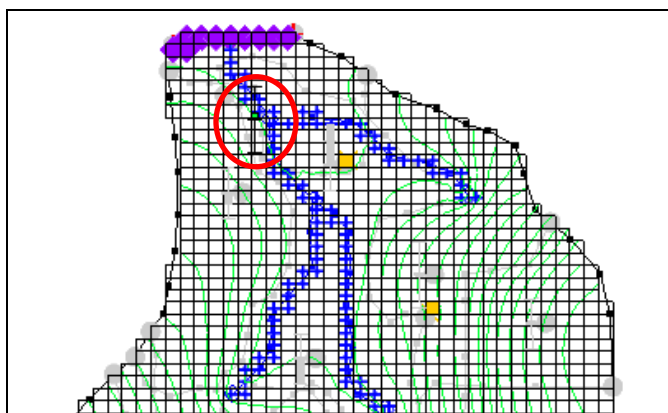

Figure 6 Observation target shows very small residual error
4. Select the “Sources & Sinks” coverage. Notice that the observation target (located near the top of the stream) shows very little residual error (red circle in Figure 6).